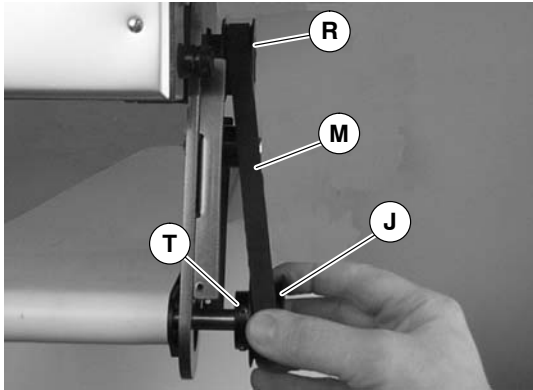

Figure 17
3. Remove timing belt (M of Figure 17).
NOTE: If timing belt does not slide over pulley flange, loosen driven pulley set screws (T of Figure 17) and remove pulley with belt. For re-installation, see steps 6 through 9 on page 7.